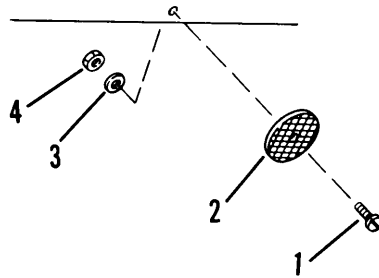

Figure 4-64. Reflector
- (1) Remove screw (1, fig. 4-64) nut (4) and washer (3).
- (2) Remove reflector (2).
- (3) Repeat steps 1 and 2 for other reflectors as required.
- (1) Place reflector (2, fig. 4-64) into position.